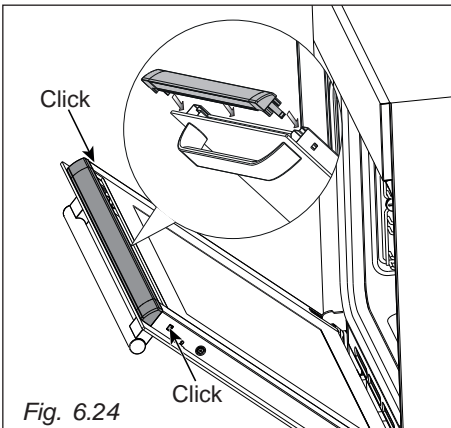

Fig. 6.24
- Gently push the glass retainer back into place. You should be able to hear the tabs on both sides click as they lock the glass retainer in (fig. 6.24). Please take special care to reassemble it correctly: if correctly fitted, the descending section shall be towards the inside of oven.